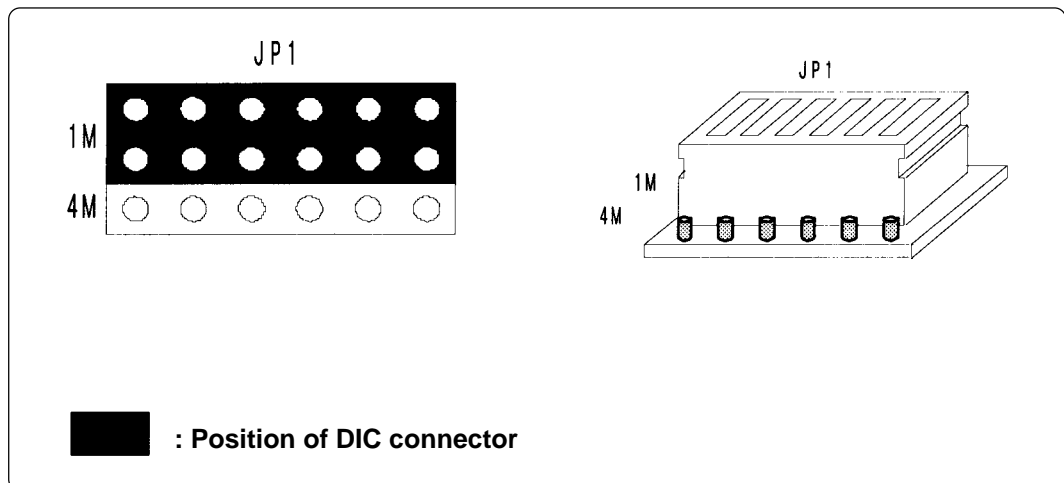

Figure 4.2 JP1 switch setting
The setting of JP1 switch is prepared for MCUs with their ROM area expanded in the future. Use this setting for the current MCUs. Figure 4.2 shows the factory-setting of JP1 switch.
- (1) Be sure to set the switch properly. Otherwise wrong settings can cause fatal damage to the MCU.
- (2) Figure 4.2 applies to both PCA7302E1F-80 and PCA7302E1L-80.